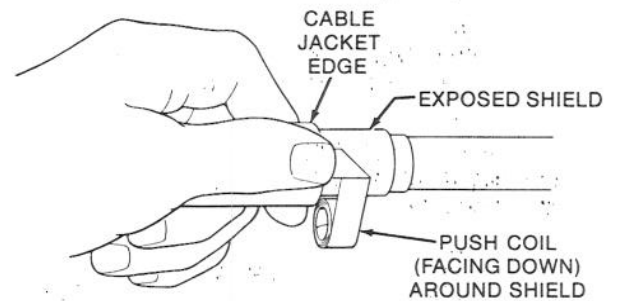

Figure 7
3. Hold the coil in place with thumb. Pull the coil around the cable allowing it to unwrap and rewrap around the shielding and itself. (Figure 7.)